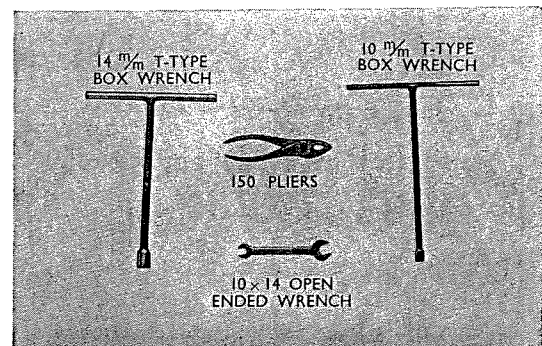

Fig. 4.50 Tools required for disassembly and assembly of the exhaust pipe and muffler
1. Tools required for disassembly and assembly of the exhaust pipe and muffler. (Refer to Fig. 4.50)